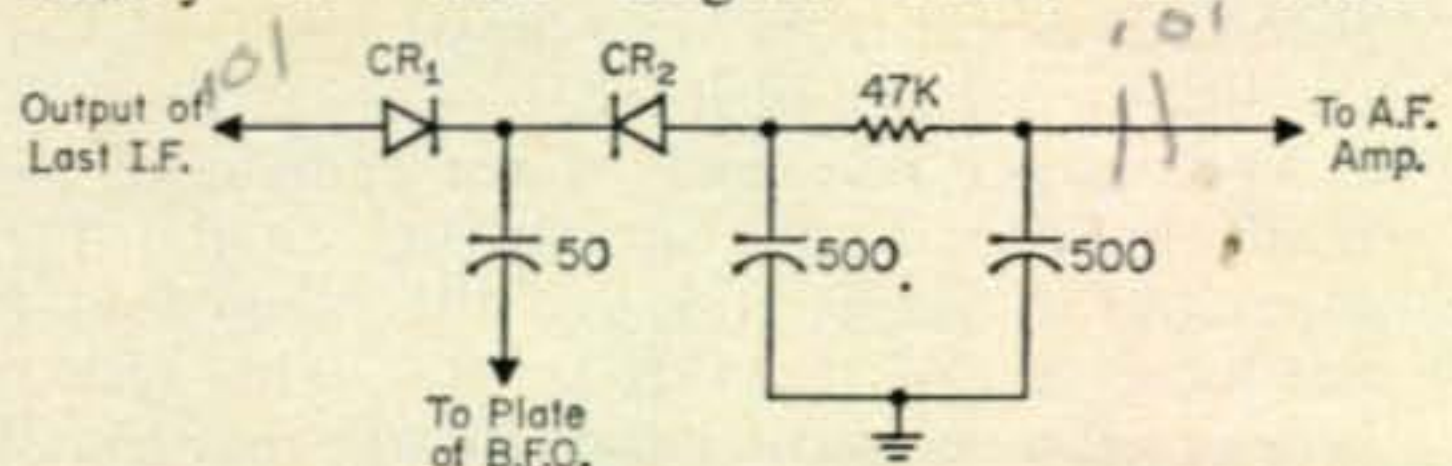

Fig. 1—Circuit of a simple product detector added to the two surplus receivers discussed in the text. The diodes can be 1N67, 1N38, 1N281, etc.
3) Connect both cathode ends of  $CR_1$  and  $CR_2$  together (as shown in fig. 1) with approximately  $\frac{1}{2}$ " lead lengths. Leave the outer
7) Solder one end of a 50 mmf capacitor to pin 5 of  $V_{12}$  (b.f.o. buffer) without disturbing any other socket wiring and then connect the other end to the junction of the two diodes. This completes the product detector wiring, resulting in the circuit shown in fig. 1.
3) Connect both cathode ends of the two diodes ( $CR_1$  and  $CR_2$ ) together (as in fig. 1) with approximately 1" leads. The other leads (anodes) should be  $1\frac{1}{4}$ " long. Be sure to use heat sinks when soldering the diodes.